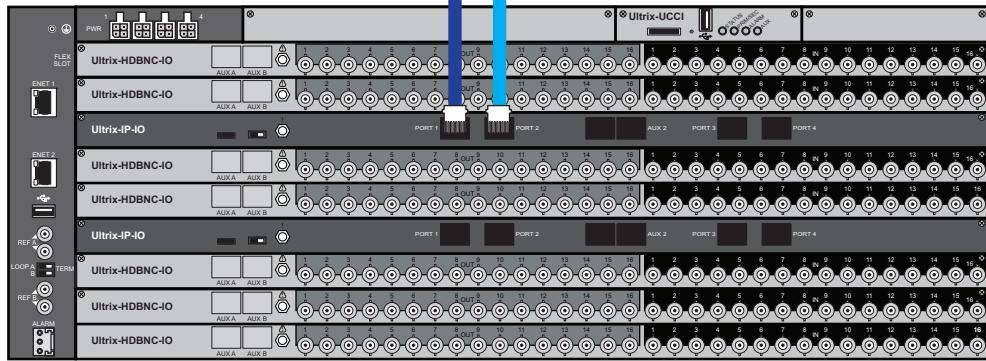

Figure 33 Example of UTRIX-IP-IO with 3G HD Video Streams — Redundancy Mode
**Figure 33** shows two ULTRIX-FR5 routers with one router (Frame A) transmitting eight 3G HD primary video streams and eight 3G HD secondary streams. The second router (Frame B) receives two sets of eight 3G HD streams (primary and secondary).